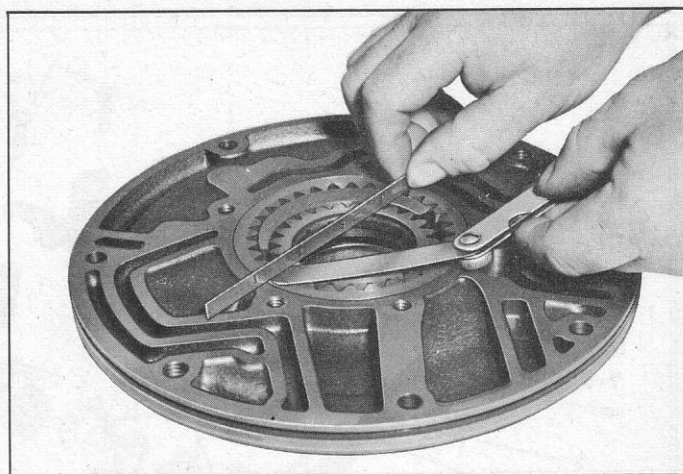

Fig. 26—Checking Gear End Clearance
- c. Gear end clearance (fig. 26) should be .0005"-.0015".